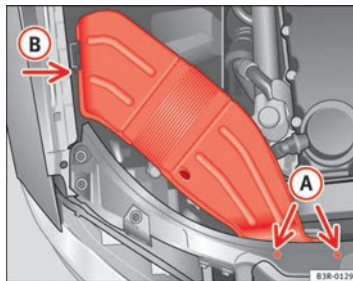

Fig. 202 Air duct on right side of vehicle
- Unscrew bolts **A** ⇒ Fig. 202.